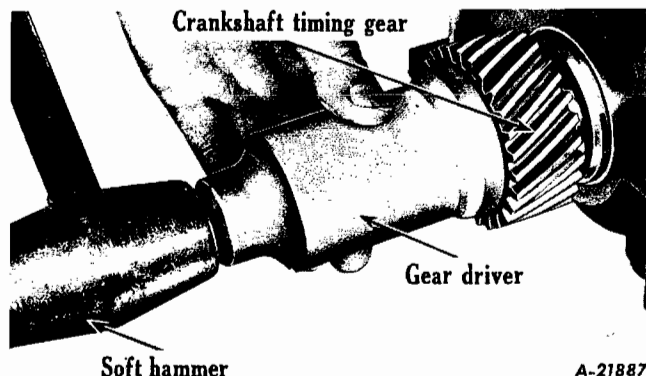

Fig. 60 - Installing crankshaft timing gear using SE-1716 Installing tool.
5. Install Woodruff key in groove in crankshaft. Heat crankshaft gear in boiling water or piston heater. This will expand the gear enough to let it be tapped on the crankshaft without the danger of damaging the gear. Use gear driver to insure alignment when starting gear (Fig. 60).